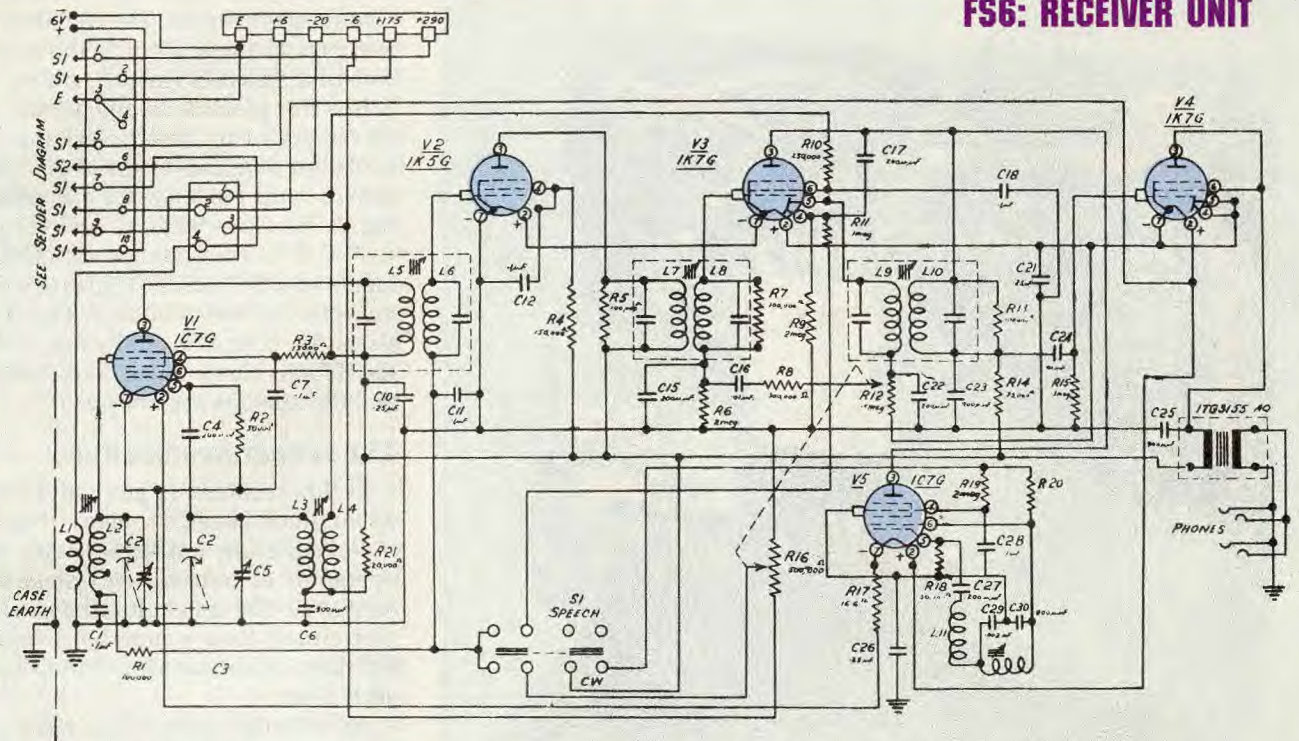

Fig.1: the FS6 receiver unit employed a conventional superheterodyne circuit with five valves.
It is not possible to operate the receiver out of its case unless jumper leads are attached to the 4-pin plug shown in the top left of the circuit (see Fig.1). The connections are: (1) HT +175V @ 27mA (maximum); (2) filaments +6V @ 240mA; (3) bias -6V @ < 1mA; and (4) aerial/antenna. The chassis is the common return circuit for the HT and filament negative, the bias and the antenna system earth.